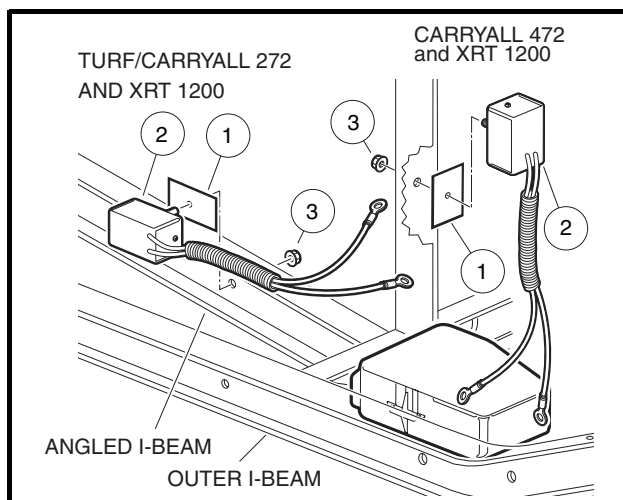

Figure 12-16 Location of Diodes
6. Remove the nut (3) and remove the diode (2) and thermal transfer pad (1) from the vehicle frame (**Figure 12-16, Page 12-12**).
NOTE: Diodes are mounted in one of two different locations, depending on the vehicle model (Figure 12-16, Page 12-12).